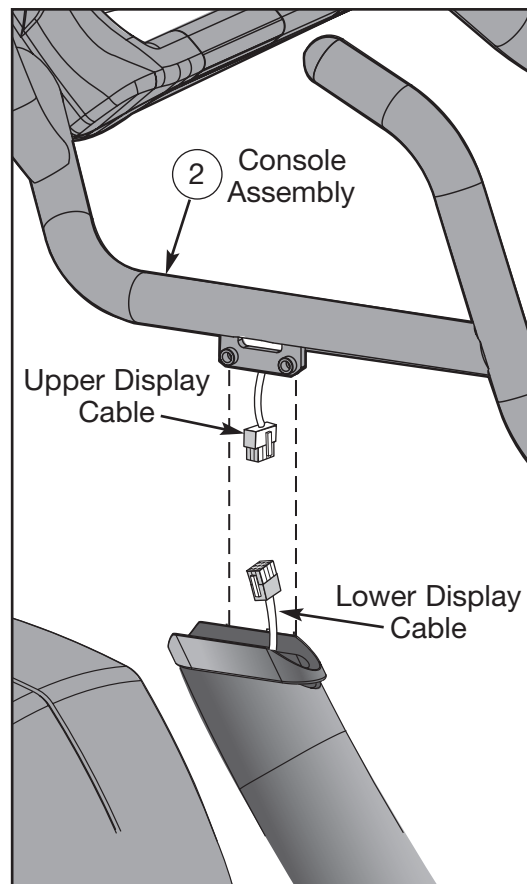

Figure 4
- E. Have a second person hold the console over the upright tubes and gaskets until step 6C. See Figure 4.
- F. Connect the upper display cable to the lower display cable. See Figure 4.